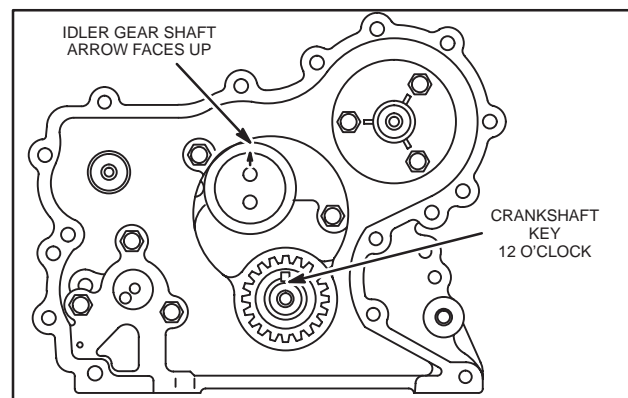

Fig. 15 – Crankshaft Position
3. Make sure crankshaft key is at 12 o'clock position as shown in Fig. 15.